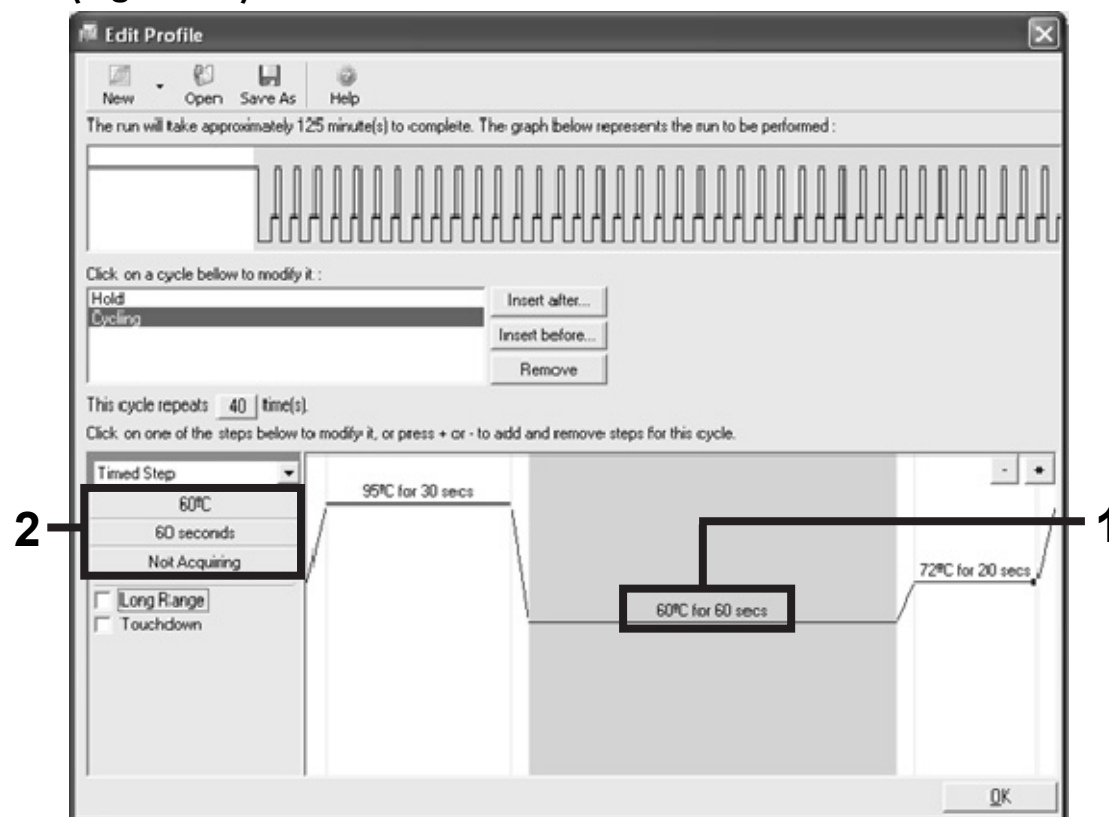

Figure 21. Cycling step at 60°C.
10. Highlight the second step and set to 60°C for 60 secs. Enable data acquisition during this step by selecting the “Not Acquiring” button (Figure 21).